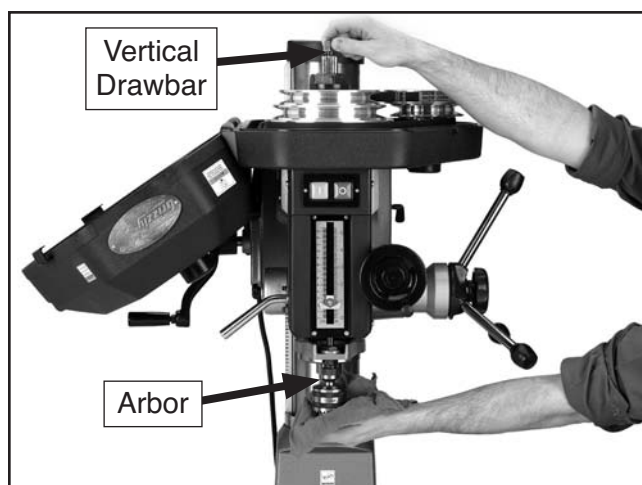

Figure 22. Collet arbor installation.
2. Insert the collet or cutting tool's arbor up into the spindle housing. Rotate the collet or arbor to line up the keyway with the matching pin in the spindle opening (**Figure 22**).